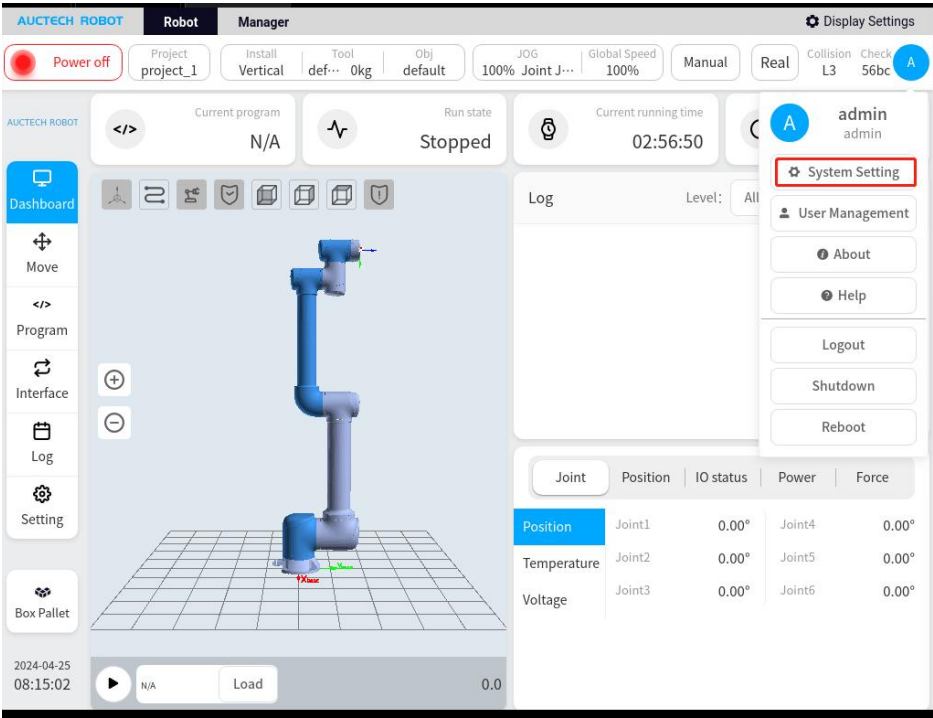

Figure 1
- 4、 Click the user profile picture , select System Settings, as shown in Figure 1.